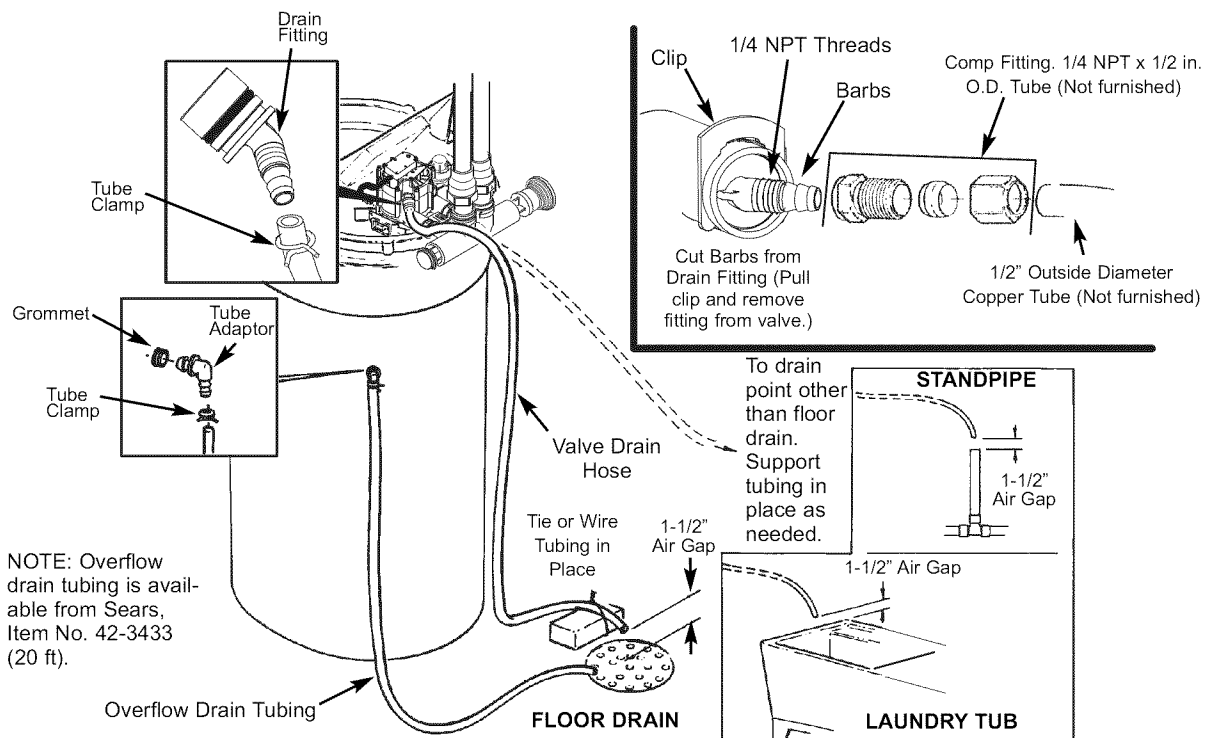

FIG. 16
Take a length of 3/8" inside diameter drain tubing and attach one end to the drain fitting. See Fig. 16. Use a tube clamp to hold it in place. Put the other end of the tubing over a floor drain, into a laundry tub, standpipe, or other suitable drain. **Check your local codes.**
1. Locate the rubber grommet, tube adaptor and tube clamp (see Fig. 16) that are in the parts bag.
**IMPORTANT: Overflow water must run downward through the tubing. Do not raise the tubing higher than the grommet and tube adaptor. See Fig. 16.**